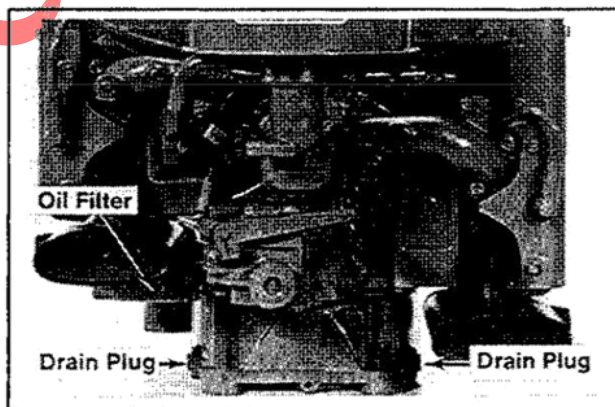

Figure 3-2. Oil Filter And Oil Drain Plug Locations.
1. Remove the oil drain plug and oil fill cap/dipstick. Refer to Figure 3-2. Tilt the engine slightly towards the drain hole to obtain better drainage.